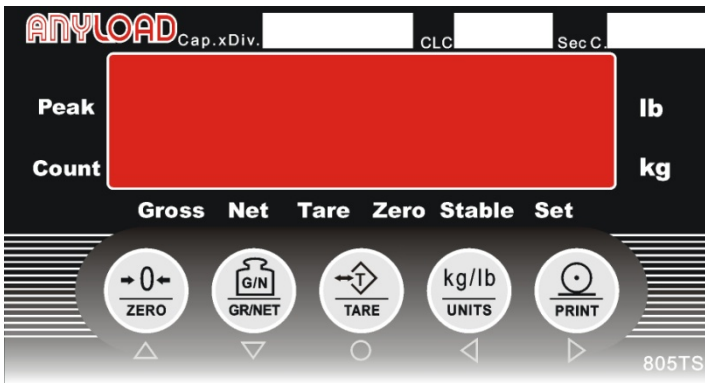
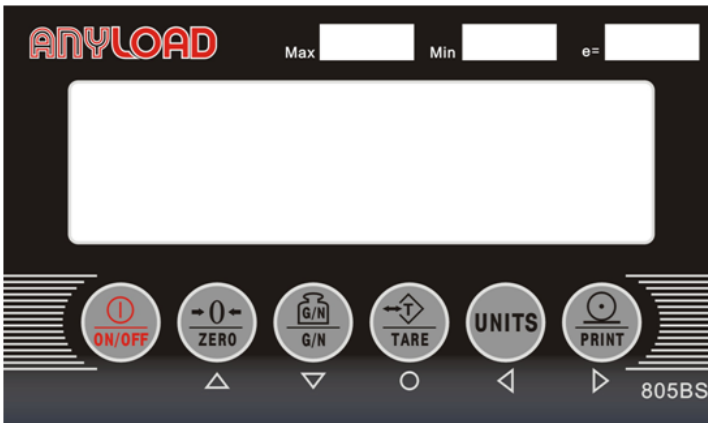

Fig. 4.1 Front Panel Configuration for 805TS
Fig. 4.2 Front Panel Configuration for 805BS series
Fig.4.1 and Fig.4.2 shows indicator display, LED/LCD indicator lights and keypad configuration. Signs at the bottom of the keypad are for configuration operation use (refer to Section 9 for details).
►, ◀ are for moving forward and backward while ▲, ▼ are for increasing and decreasing the digits. After done with Input Item Code, press the ○ key if the stored Item Code is not 0. Item Code of the current count items is then stored and the keypad returns to normal operating functions as shown in Fig. 4.1 (805TS series) and Fig.4.2 (805BS series).
- (5) On the Weighing mode, keypad functions are according in Fig.4.1 (805TS and Fig.4.2 (805BS series).